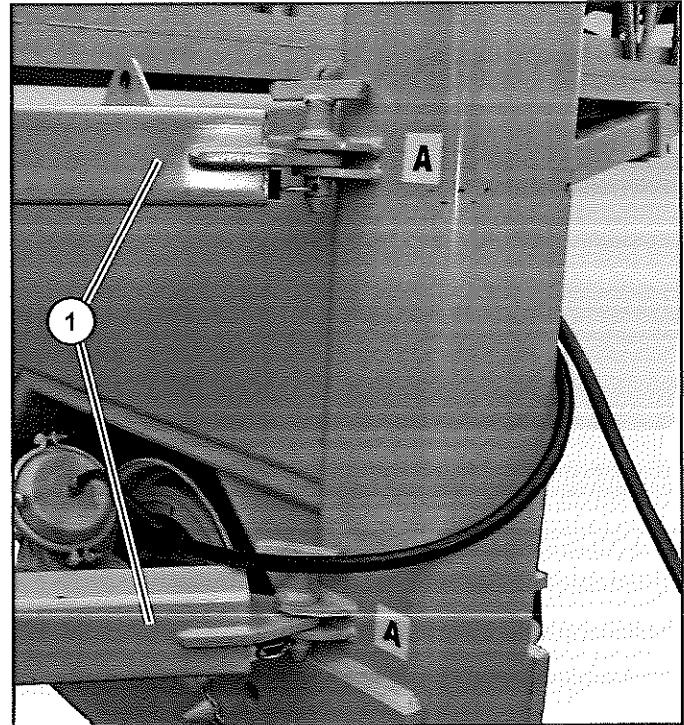

Figure 91
7. Using appropriate equipment, lift the conveyor one side at a time (block wheels on opposite side) and remove the four A bars (Item 1) (Figure 91).